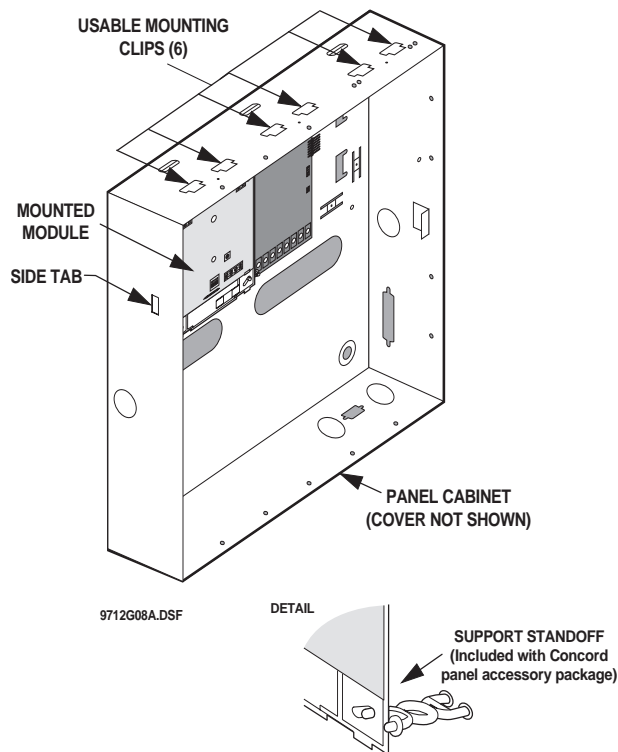

Figure 6. Mounting the Module in a Concord Cabinet
4. Slide the module back-plate onto the two clips located on the top-left corner or center of the cabinet (Figure 6).
5. Push the lower-right corner of the module onto the support standoff (see detail in Figure 6).